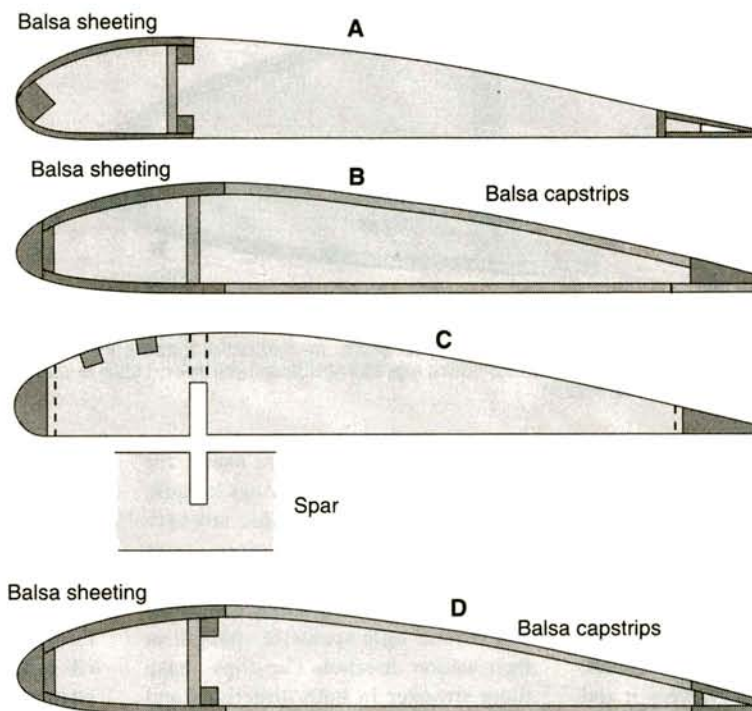

Figure 2. Rib layouts
- **Building ease.** This is another consideration. As model designs have progressed over the years, they have become simpler and easier to build; so it is with wings. The most frequently used technique is D-tube, which is easy to build, strong and relatively light (see Figures 2 and 3).
Ribs are inherently strong chordwise and require little spanwise strength in their weaker direction. Capstrips make them stronger in both directions and add to the finished wing's appearance (Figure 1F). There are endless ways to configure ribs; Figure 2 shows four